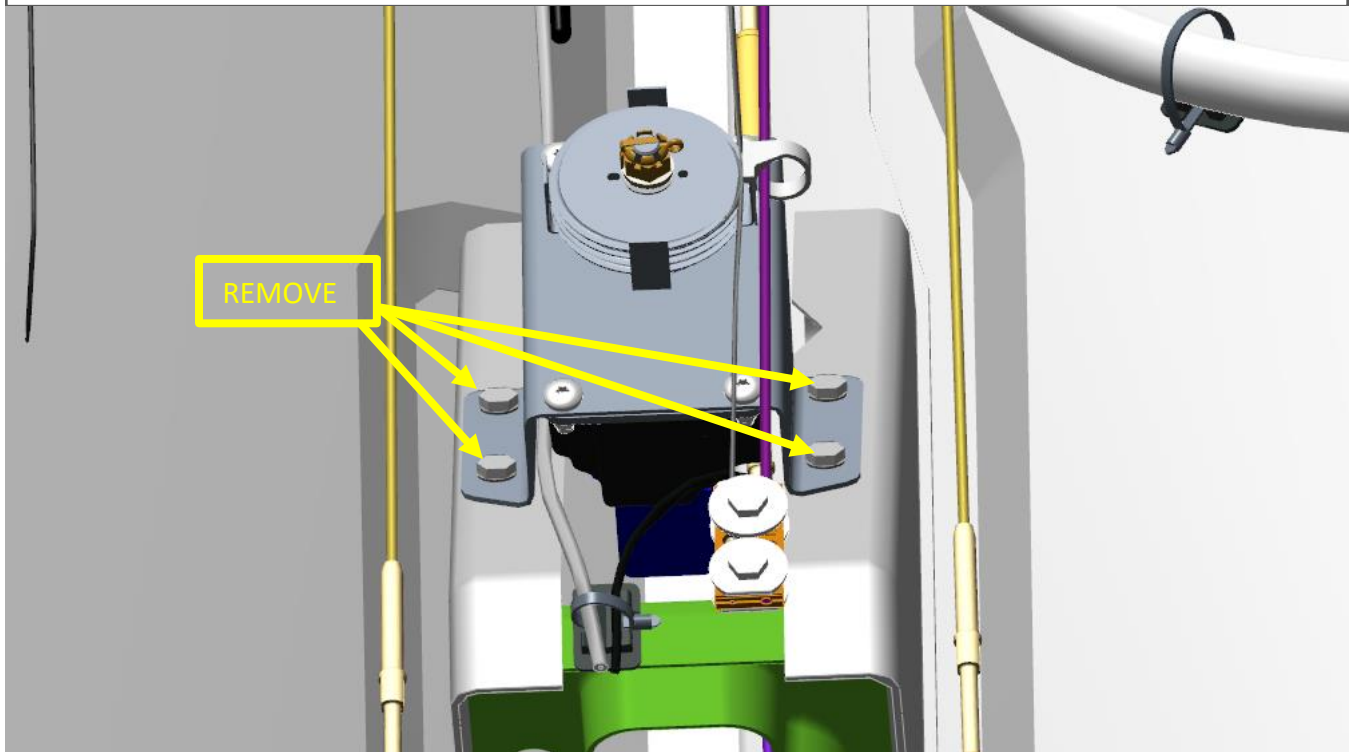

Figure 4: Remove hardware
13. Remove the four screws and washers that secure the pitch servo and its mount bracket to the keel of the aircraft and remove the pitch servo and bracket. Retain the servo, bracket, and mounting hardware for later reinstallation. See **Figure 4**.